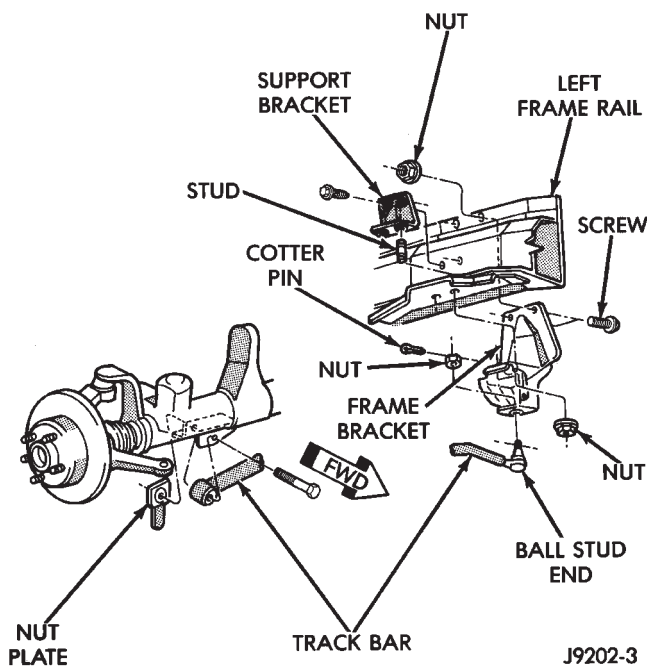

Fig. 1 Track Bar
- (1) Raise and support the vehicle.
- (2) Remove the cotter pin and nut from the ball stud end at the frame rail bracket (Fig. 1).
- (3) Remove the bolt and flag nut from the axle shaft tube bracket (Fig. 1). Remove the track bar.
- (1) Install the track bar at axle tube bracket. Loosely install the retaining bolt and flag nut (Fig. 1).
- (2) It may be necessary to pry the axle assembly over to install the track bar at the frame rail. Install track bar at the frame rail bracket. Install the retaining nut on the stud (Fig. 1).
- (3) Remove the supports and lower the vehicle.
- (4) Tighten the retaining bolt at the axle shaft tube bracket to 100 N·m (74 ft. lbs.) torque.
- (5) Tighten the ball stud nut to 81 N·m (60 ft. lbs.) torque. Install a new cotter pin.